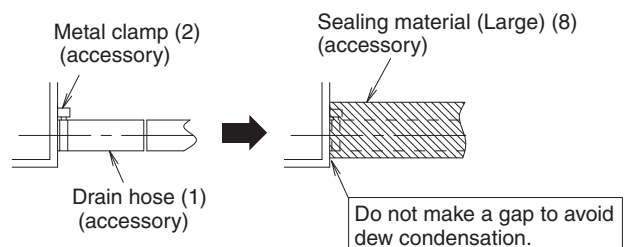
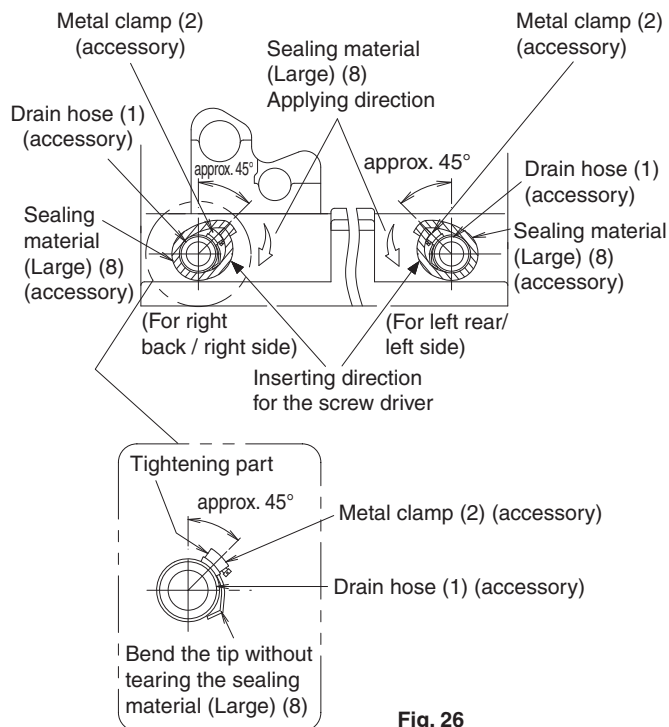

Fig. 25
Fig. 26
- Make sure to use the attached drain hose (1) and metal clamp (2). Also, insert the drain hose (1) into the root of the drain socket, and tighten the metal clamp (2) at the root of the drain socket tightly. (Refer to **Fig. 25** and **Fig. 26**)
(Install the metal clamp (2) so that the tightening part is in the range of about 45° as shown in the **Fig. 26**.)
- Bend the tip of the metal clamp (2) so that the sealing material does not bulge. (Refer to **Fig. 26**)
- When performing insulation, wind the large sealing material (Large) (8) attached starting from the base of the metal clamp (2) and drain hose (1) in the direction of the arrow. (Refer to **Fig. 25** and **Fig. 26**)